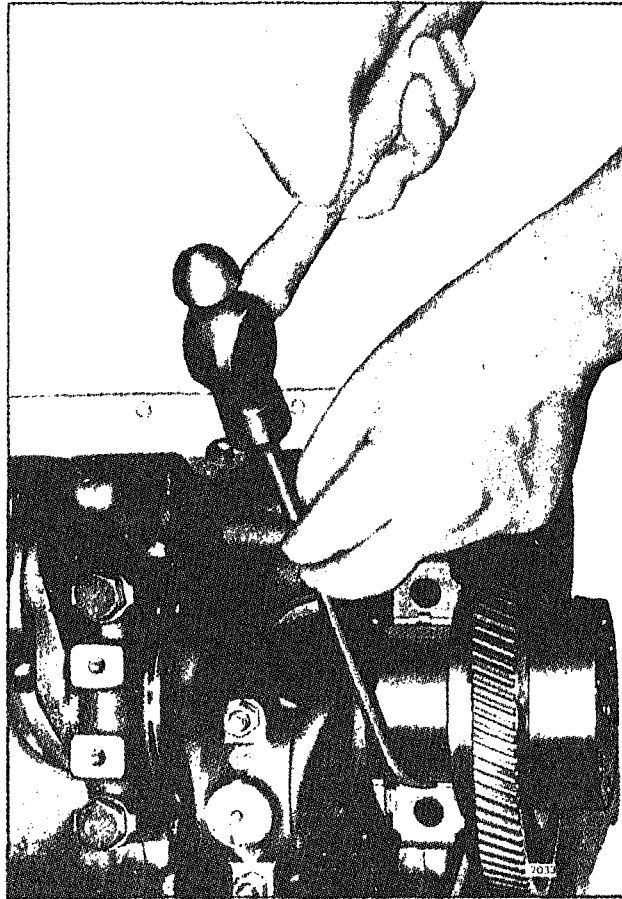

Fig. 5 - Removing Upper Rear Main Bearing Shell
- b. Remove the rear main bearing upper shell by tapping on the edge of the bearing with a small curved rod, revolving the crankshaft at the same time to roll the bearing shell out as shown in Fig. 5.